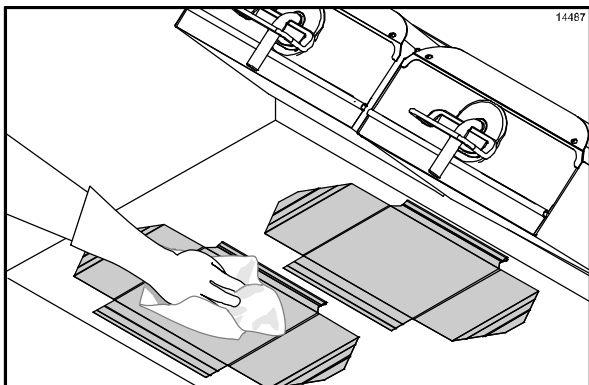

Figure 98
39. Rinse both sides of the release sheets with a clean, sanitizer-soaked grill cloth. (See Figure 98.)